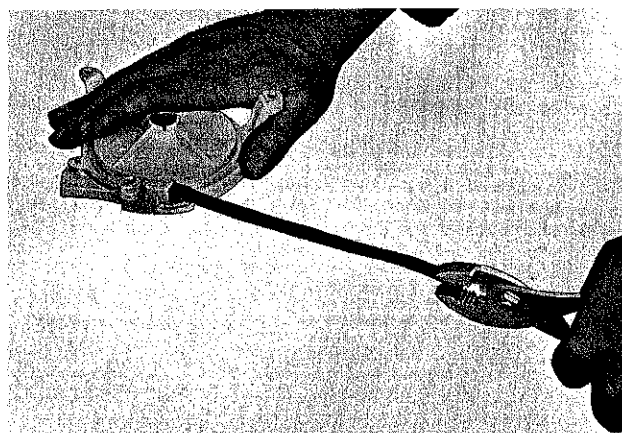

Figure VII-5. The starter spring may be removed from the base by pulling the spring out from the side of the base held on a flat surface.
7. Carefully slip the end of the spring off the starter drum with the end of a screwdriver. Remove the drum from the base. Be careful when removing the drum to prevent the spring from jumping loose. (Figure VII-4) Remove the spring and the second starter base bushing from the base. The spring may be allowed to unwind in a container or it may be pulled from the base with a pair of pliers while holding the base flat side down, on the bench. (Figure VII-5)